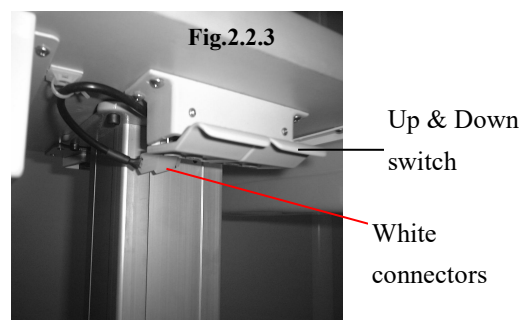

Fig.2.2.3
4. Connect two white connectors under tabletop, Turn on and press Up & Down switch to check whether the instrument table is normal.(Fig.2.2.3).